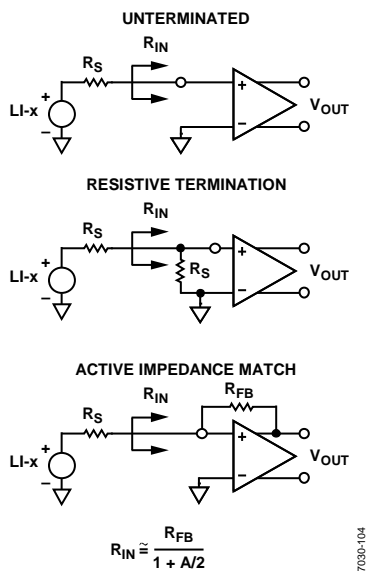

Figure 41. Input Configurations
The short-circuit noise voltage (input-referred noise) is an important limit on system performance. The short-circuit input-referred noise voltage for the LNA is 1.4 nV/√Hz at a gain of 21.3 dB, including the VGA noise at a VGA postamp gain of 27 dB. These measurements, which were taken without a feedback resistor, provide the basis for calculating the input noise and noise figure (NF) performance of the configurations shown in Figure 41.